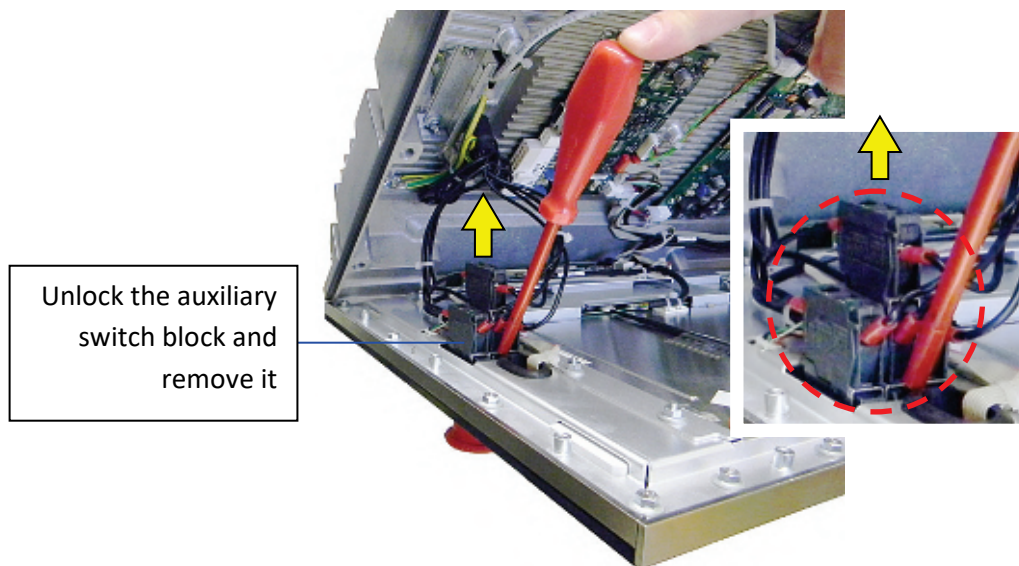
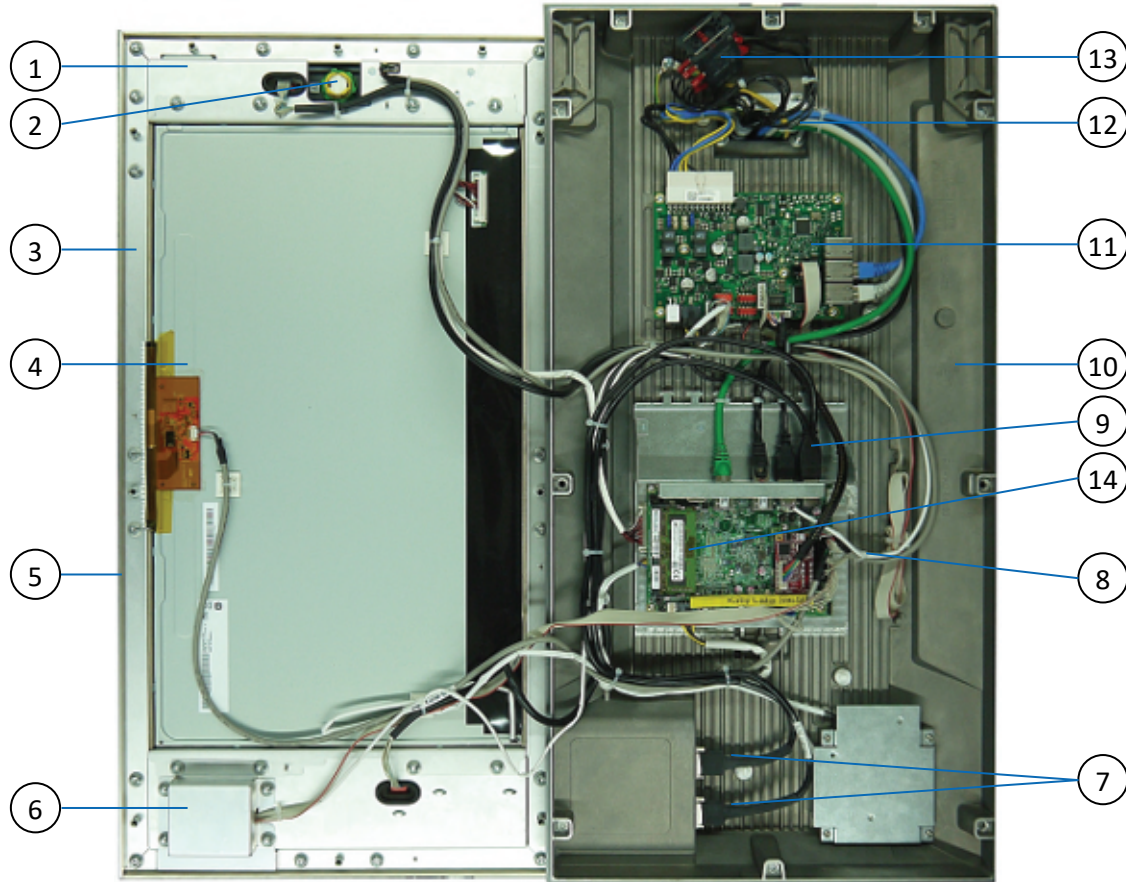

Fig. 27: Unlocking and removing the auxiliary switch block
Fig. 28: CC300 operator panel, fully opened
4. Unlock the auxiliary switch block with a screwdriver and pull it out of its mounting (see Fig. 27).
**Legend for Fig. 28:**
2. Press the auxiliary switch block of the emergency stop switch (see Fig. 28, Pos.13) into its mounting so that it clicks into place (see Fig. 28, Pos.2 and Fig. 27).
3. Carefully close the housing completely. Make sure that no cables are jammed and that the surrounding seal is in correct position and will not be damaged (see Fig. 28, Pos. 5).
1. Open the CC300 operator panel, as described in chapter 7.5.1 “Opening the CC300 Operator Panel”, steps 1 to 5. The auxiliary switch block will thereby be removed from the pushbutton in step 4 (see Fig. 27 and Fig. 28, Pos. 13).